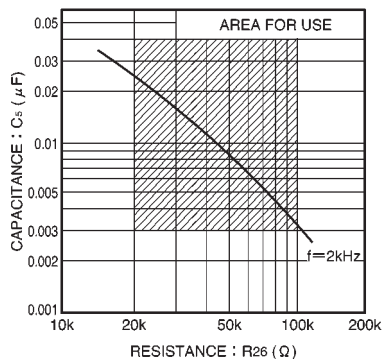

Fig. 7 Value of external components for oscillator ($V_{CC} = 5.0V$)
(3) The external resistor R_{26} connected to the oscillator (pin 30) should be in the range of 20k Ω and 100k Ω . If it is outside this range, oscillation may stop due to the influence of temperature (see Fig. 7).